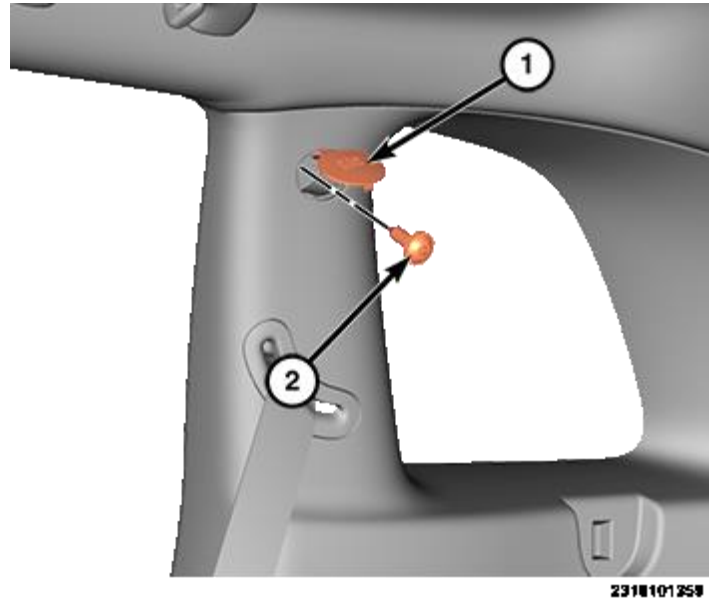

Figure 19 – Upper Quarter Trim Panel Screw and Cover (Passenger Side Shown, Driver Side Similar)
1. Using a small flat bladed tool or equivalent, open the trim cap on the driver side quarter trim panel (1) (Figure 19).
2. Remove the screw (2) (Figure 19).
33. Install and securely tighten the screw (2) (Figure 19).
35. Close the trim cap on the driver side quarter trim panel (1) (Figure 19).